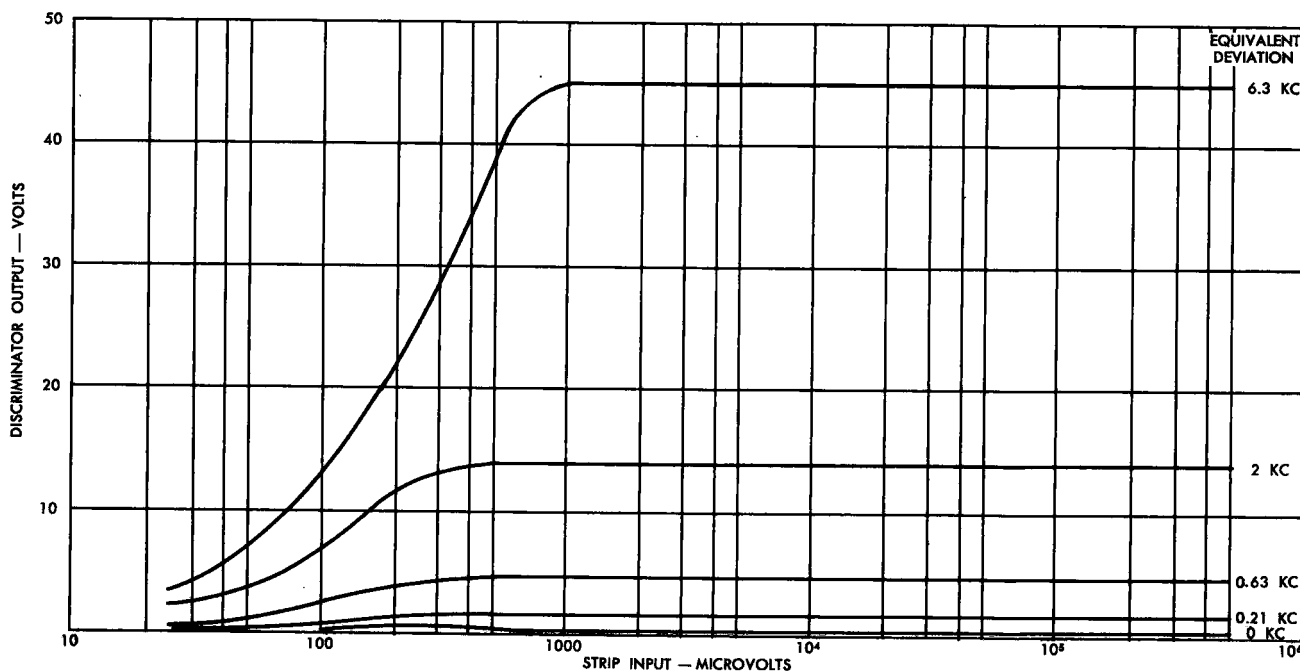

Figure 7-3. Limiting-characteristic Curves
- (9) Return the XTAL SELECTOR switch (S201) to the OFF position.
- (10) Restore the signal-generator signal.
- (11) Check that the limiting action at this point follows the curves in figure 7-3.